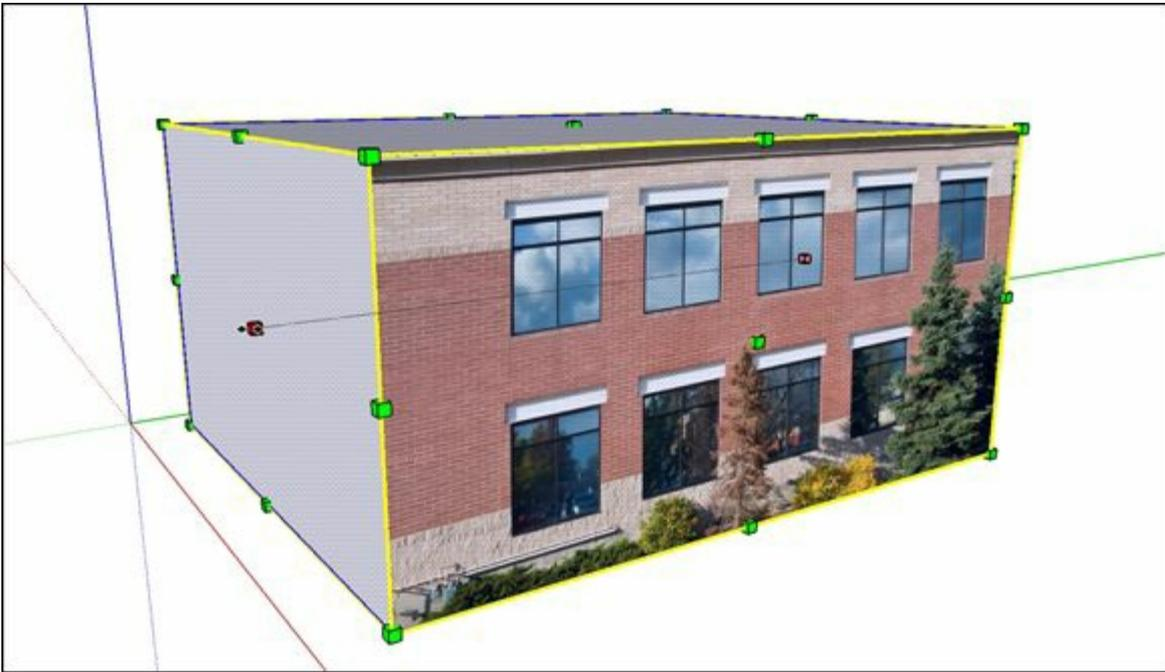

FIGURE 8-6: Use the Scale tool's grips to stretch your selection (texture and all).
4. **Scale your selection to the right size. (See Figure 8-6.)**